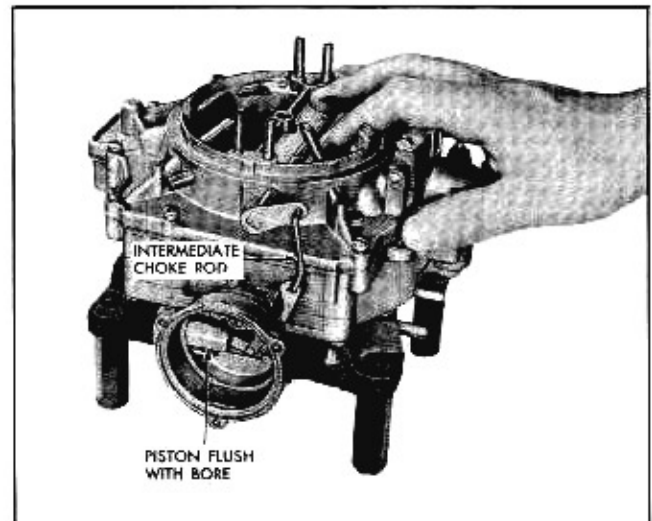

Fig. 6B-85 Intermediate Choke Rod Adjustment
9. To provide correct fit of choke valve in air horn, push lightly on choke shaft to obtain a minimum clearance of .020" between trip lever and counterweight lever (Fig. 6B-84). While holding in this position, tighten choke valve retaining screws and stake lightly.